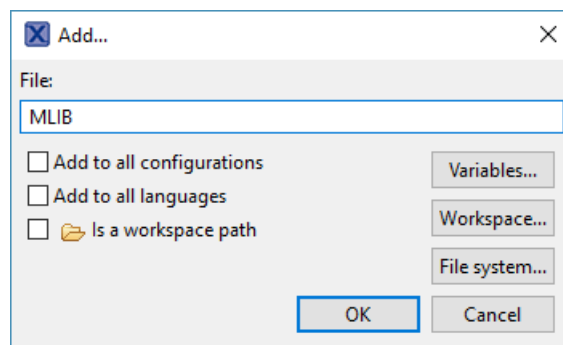

Figure 1-8. Library file inclusion
11. Type the following into the File text box (see Figure 1-8): `:mlib.a`